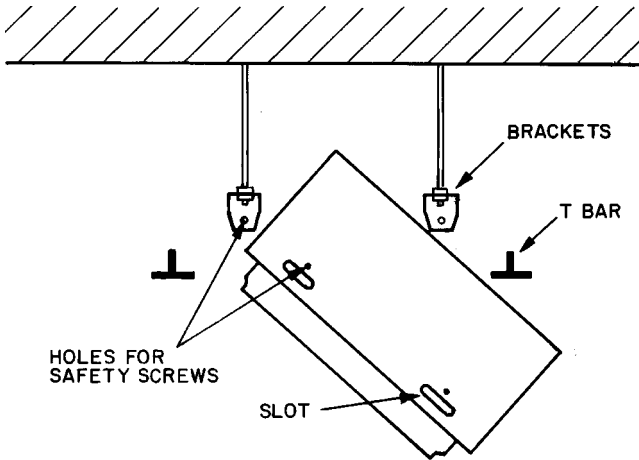

Fig. 6 — Unit Inclined for Insertion Over T-Bars
- a. Carefully lift unit at the 4 corners to insert it onto the support brackets. The unit may have to be inclined to be lifted over the sustaining T-bars (Fig. 6). After the unit is inserted onto the support bracket, screw in safety screws.